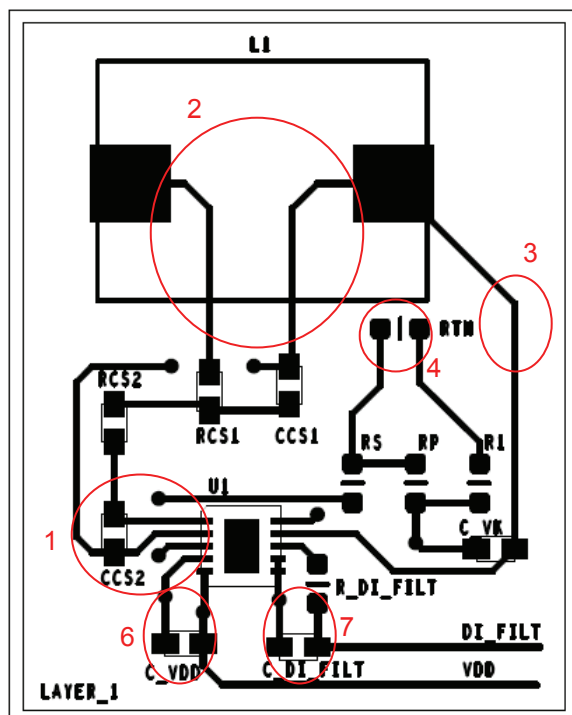

Figure 8 Layer 1
1. Place the capacitor Ccs2 close to the VO and VCS pins of the IR3721. Treat VO and VCS as a differential signal pair back to the IC as shown in the elliptical area designated #1 of figure 8.
2. Sense the inductor (or shunt) Kelvin style at its terminals. Route the leads back as a differential pair. Refer to area #2 of figure 8.
3. Route signal VOUT back to the IC VK pin on its own dedicated trace. Refer to area #3 of figure 8.
4. Place the thermistor near the inductor. Refer to area #4 of figure 8. Route the thermistor leads back to the rest of the network using differential traces. Mount the rest of the thermistor network consisting of Rs, Rp, and R1 close to the IC.
6. Bypass IC VDD pin 5 to GND pin 4 with a high quality 0.1 μ F ceramic capacitor. Refer to area #6 of figure 8.
7. Bypass the IC VK pin to GND with a high quality 0.1 μ F ceramic capacitor. Refer to area #7 of figure 8.